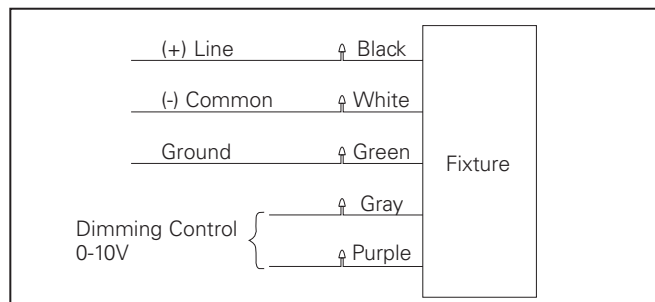

Figure 4A. Standard Configuration
4. Make wiring connections per wiring diagram (Figure 4A, or 4B or 4C).
6. Make conduit connections to the housing by using outdoor rated sealed conduit connections. Fixture option C1 has 1/2" NPT and C2 has 3/4" NPT. Make the power connections in the top housing to the wire plug assembly wires. See Figure 4A, 4B, or 4C for wire connections.